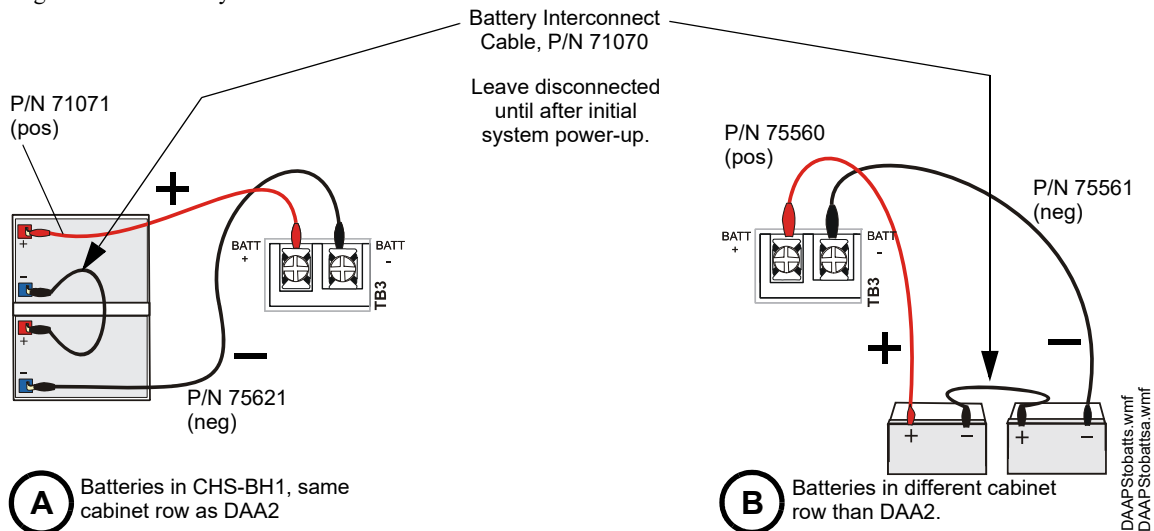

Figure 2.10 Connecting Batteries to TB3 on the CPS-24
**WARNING:** Do not connect the battery interconnect cable (See Figure 2.10) at this time. Leave the battery interconnect cable disconnected until after initial system power-up.
Refer to Figure 2.10 for battery connections.
When the batteries are installed outside the DAA2 cabinet, connections are the same as in Figure 2.10. However, the battery cables between the two enclosures must be in conduit and the enclosures must be within 20 feet (6.09 m) of each other within the same room.